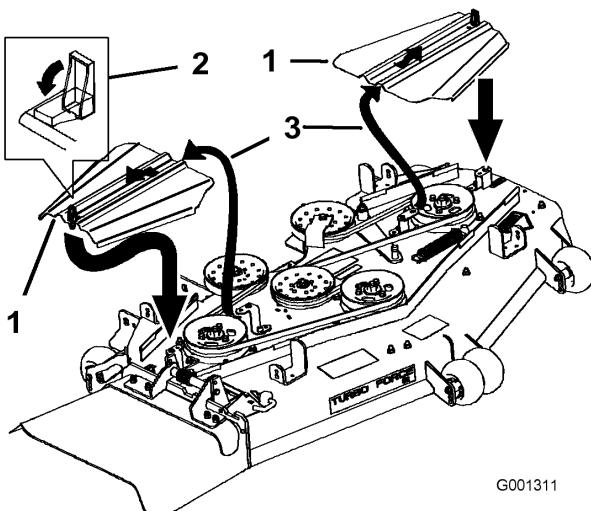

Figure 54
3. Remove the belt covers (Figure 54).
9. Install the belt covers by sliding the cover into the tab, install the bolts, and close the latches (Figure 54).